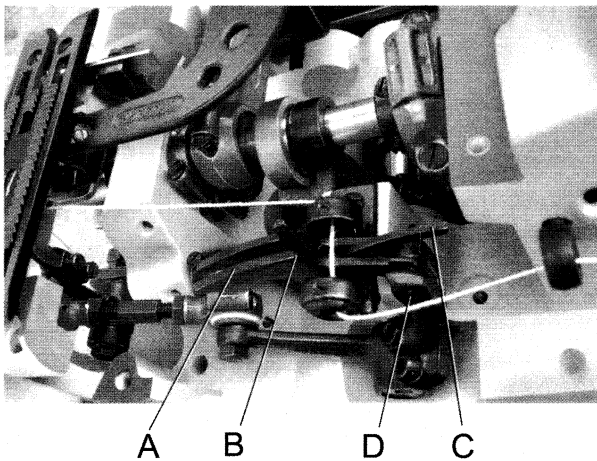

Fig. 12
The tension (B, Fig. 12) on the needle thread should be fairly strong to produce uniform stitches. The tension (C) on the looper thread should be barely sufficient to steady it. Lowering the tension increases the tension, raising the tension decreases the tension.
The height of the looper thread take-up (A, Fig. 12) is set so, that the cast-off hook (C) forces the looper thread over the corner (B) of the looper thread take-up (A) at the time the point of the descending needle is flush with
For setting the looper thread take-up loosen screw (D, Fig. 12).